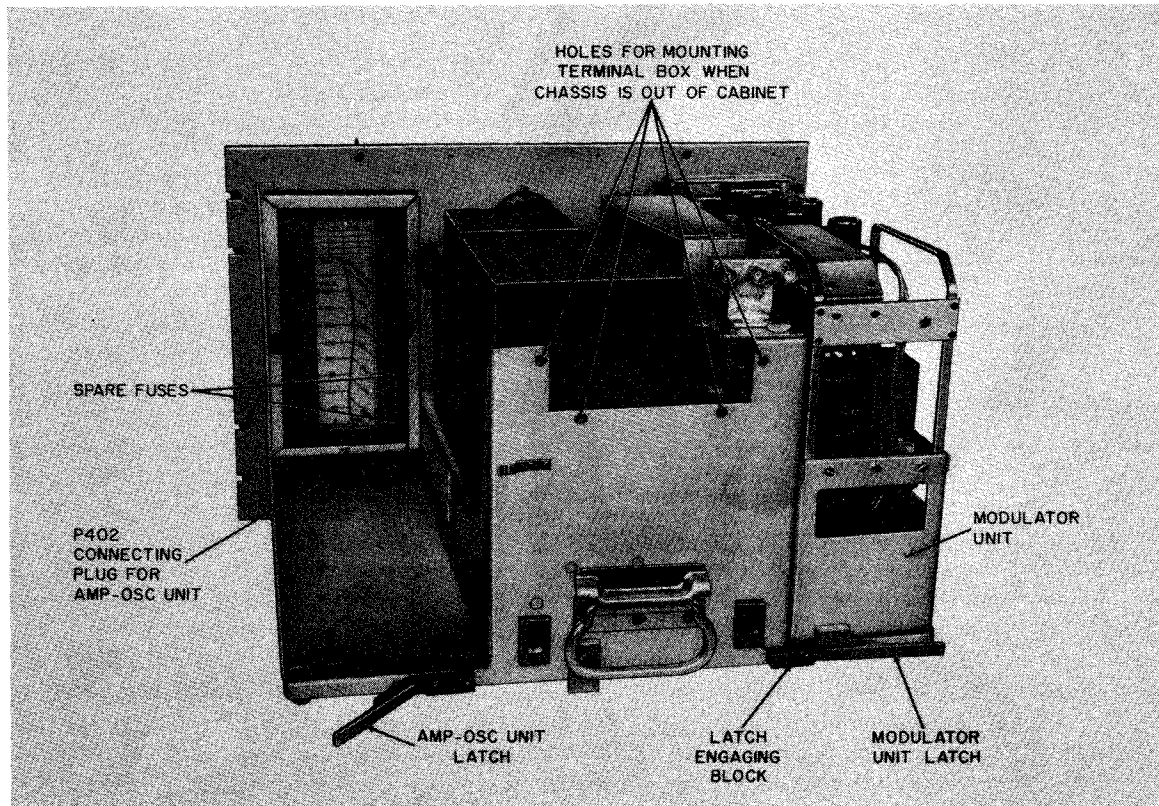

Figure 3-3. Method of Removing Amplifier-Oscillator and Radio Modulator Units from Main Chassis
b. Pull open the latches at the rear of the Amplifier-Oscillator and Radio Modulator units and remove those units from the main chassis; see figure 3-3. Remove the cover plates on the sides and top of the Amplifier-Oscillator and the plate on the right side of the blower compartment. Also remove the bottom plate of the Power Supply chassis.